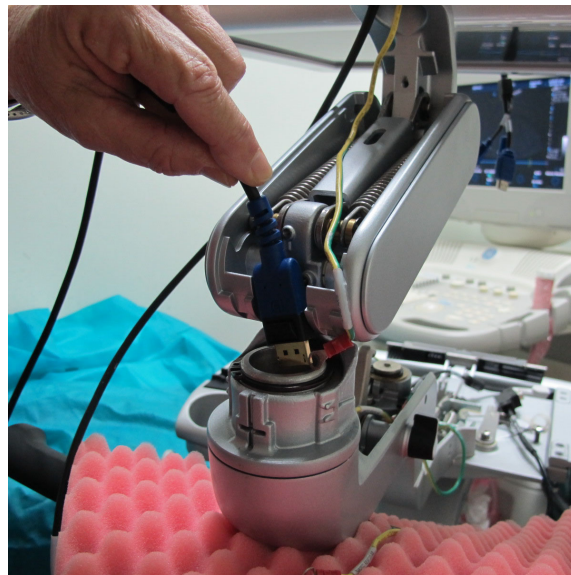
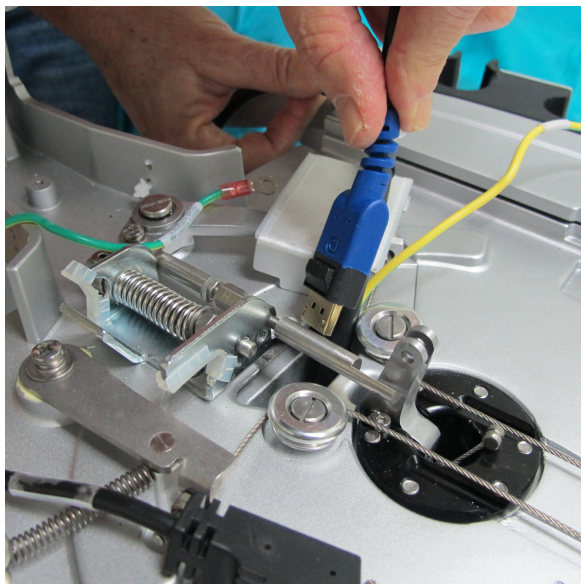

Figure 8-120 Feeding Cables through Top Aperture
Figure 8-121 Feeding Cables through OPIO Aperture
- 1.) Thread the blue main display cable downwards through the top articulated arm aperture and lead the cable through to the lower articulated arm aperture downwards towards the OPIO platform - refer to Figure 8-120 below and Figure 8-121 below.
- 2.) Continue and lead the cable's BIF connector through the OPIO aperture towards the Internal BIF Panel as shown in - Figure 8-121 below.